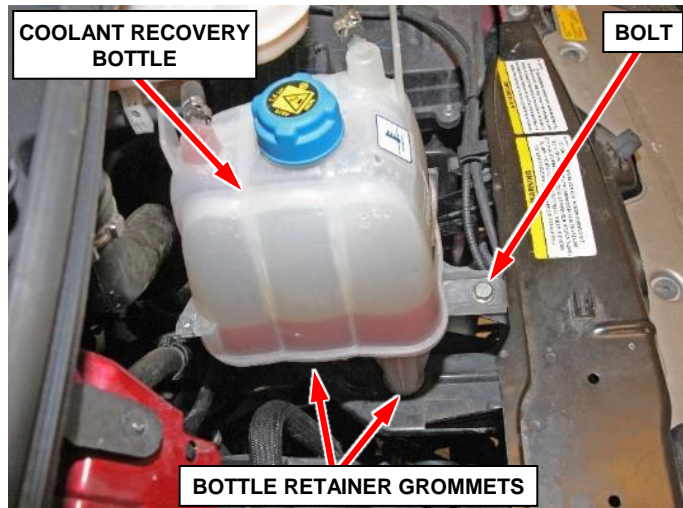

Figure 2 – Coolant Recovery Bottle
2. Remove the bolt and position aside the pressurized coolant recovery bottle (Figure 2).
27. Position the pressurized coolant recovery bottle in the proper location then install the bolt. Tighten the bolt to 12 N·m (9 ft. lbs.) (Figure 2).